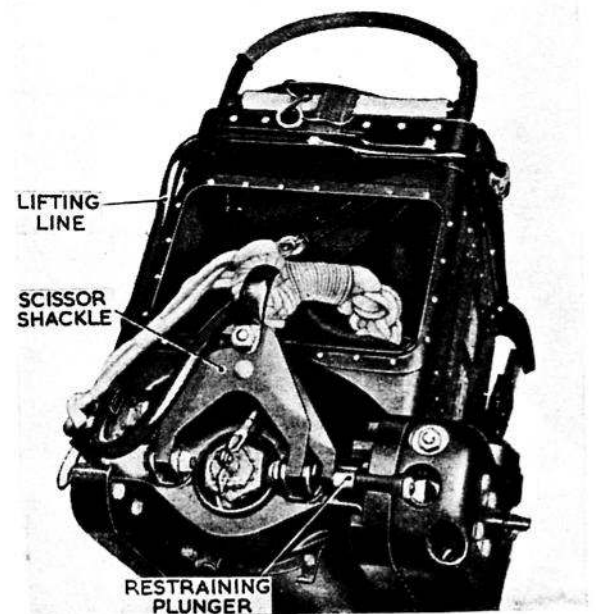

Fig. 17. Fitting the lifting lines
25. Commencing at the front of the drogue container, press the lifting lines down into their clips, using thumb pressure until the final result is similar to that shown in fig. 17.